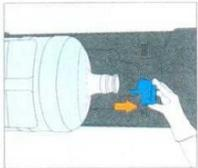

Figure 5-1
- 5. Dry bottle cap completely from the top of the bottle (fig.5-1)